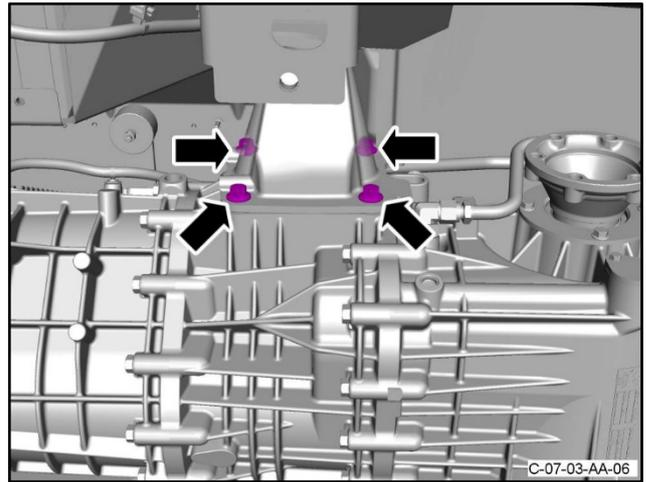

Figure 52
- 102.** Put the left mount bracket, with the hydramount attached, in position (refer to Figure 52).